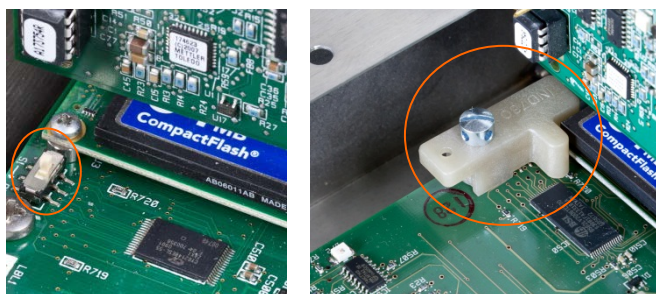

Figure A-107: Metrology Security Switch (left) and Cover Installed (right)
2. Install the Security Cover to prevent access to S1, the Metrology Security Switch indicated in Figure A-107, Main PCB Switches.